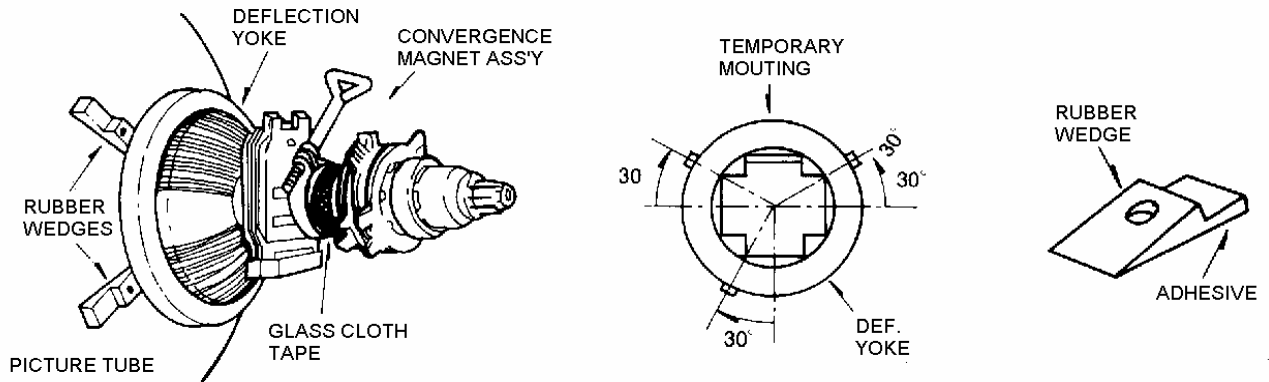

FIG 1 Rubber Wedges Location
Convergence magnet assembly and rubber wedges need mechanical positioning following figure 1.
9. Stick 3 adhesive tapes on wedges as shown in figure 1.